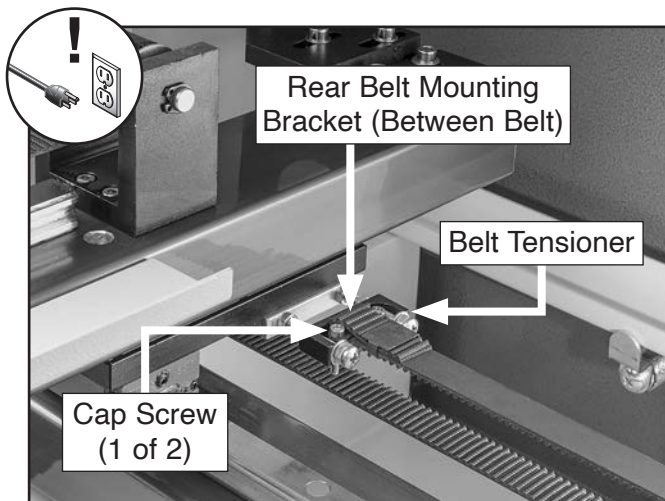

Figure 82. Y-axis rear belt mounting bracket location.
4. Remove (2) cap screws on rear belt mounting bracket securing Y-axis synchronous belt, then remove bracket from belt, as shown in **Figure 82**.